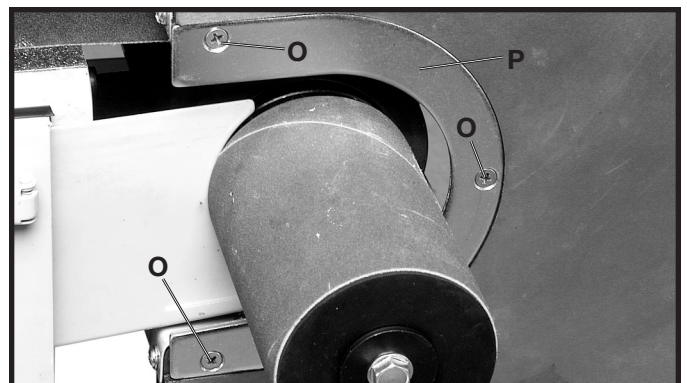

Fig. 27
10. Remove the three flat head screws (O) Fig. 27, that hold the table insert (P) to the sanding table.
11. Remove the 4" table insert (R) Fig. 27, and replace it with the appropriate table insert.